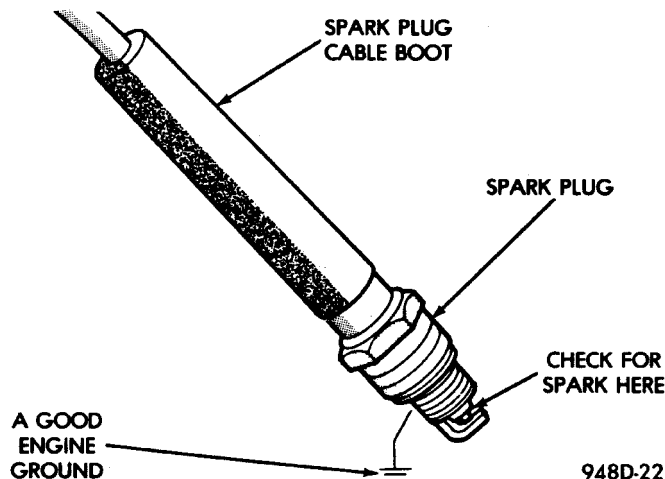

Fig. 17 Testing For Spark
(1) Insert a new spark plug into the new spark plug boot. Ground the plug to the engine (Fig. 17). Do not hold with your hand.